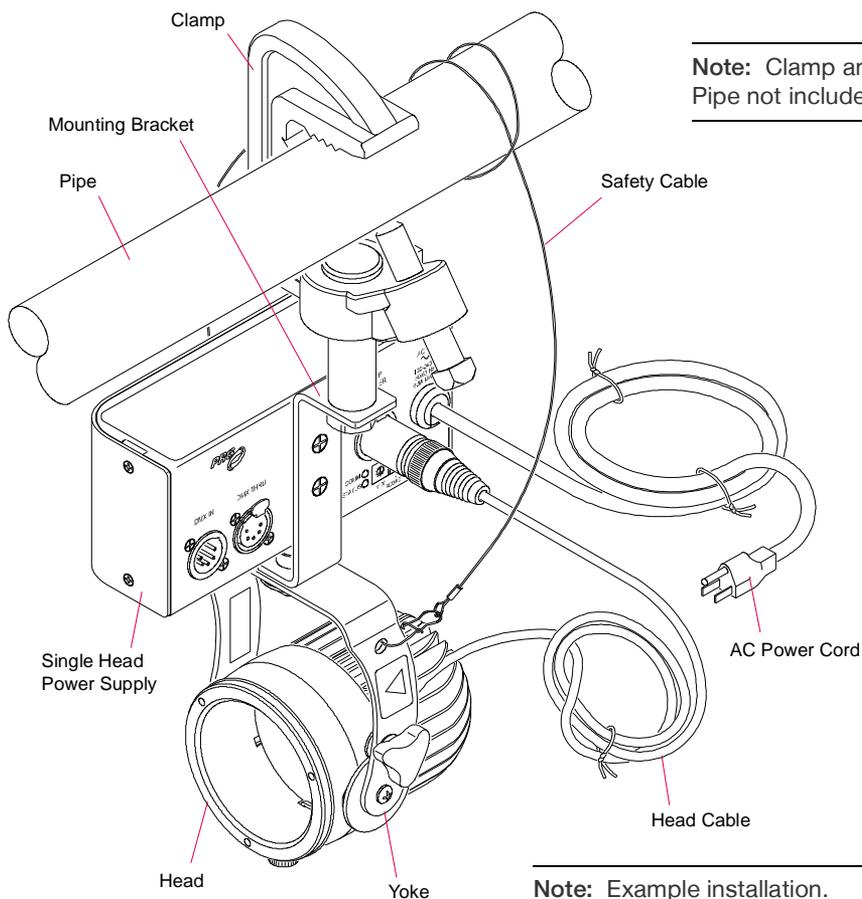

Figure 2: Unified Mounting Example
- 3) Attach Safety Cable as shown in Figure 2.